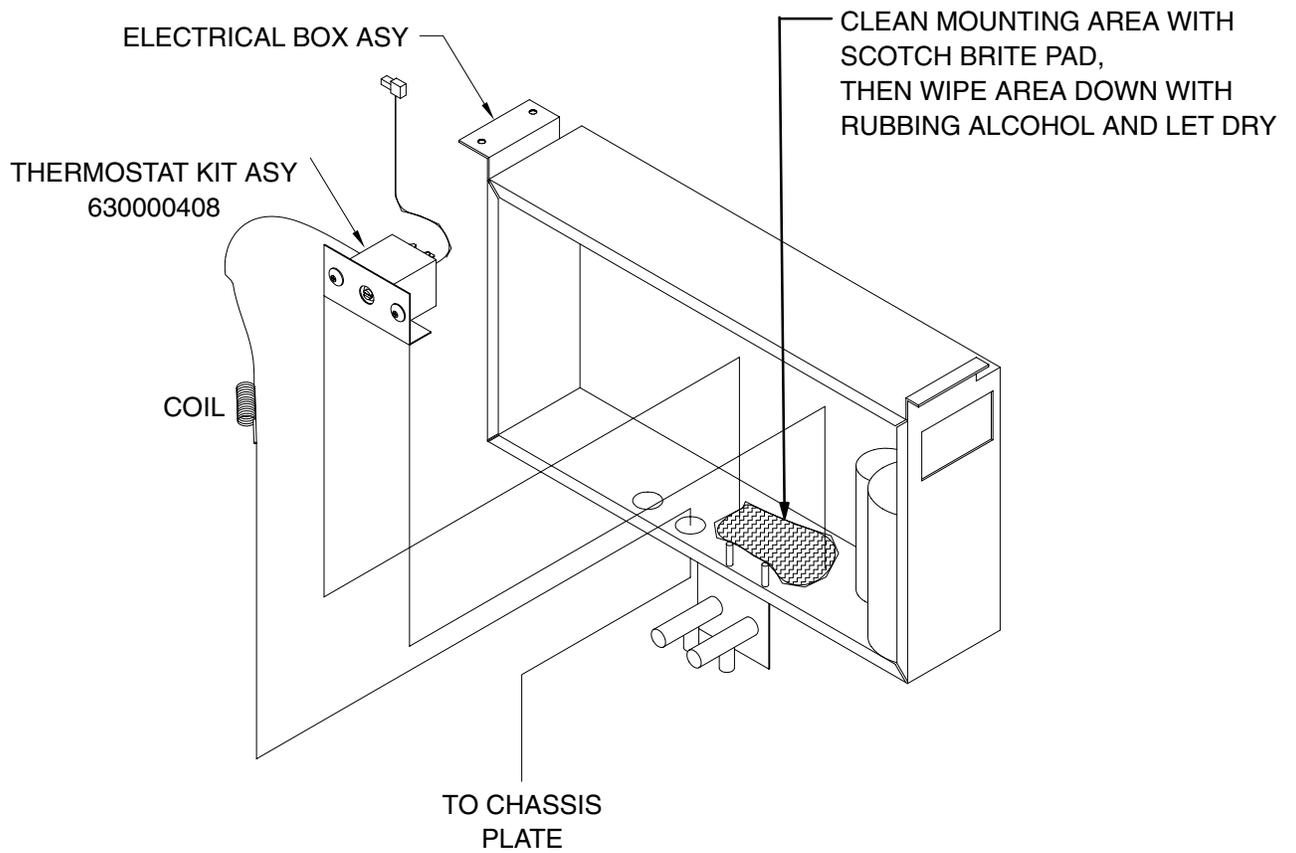

Figure 4
3. Carefully insert the coiled capillary tube through the bottom hole in the electrical box where the electrical wires are coming through (see Figure 4).
- A. Clean the mounting area by rubbing briskly with Scotch Brite pad (see Figure 4 for location).
- D. Being sure that bin thermostat is facing the correct direction, (see Figure 4) affix the thermostat in the electrical box. Press firmly down on the mounting bracket to bound the tape.